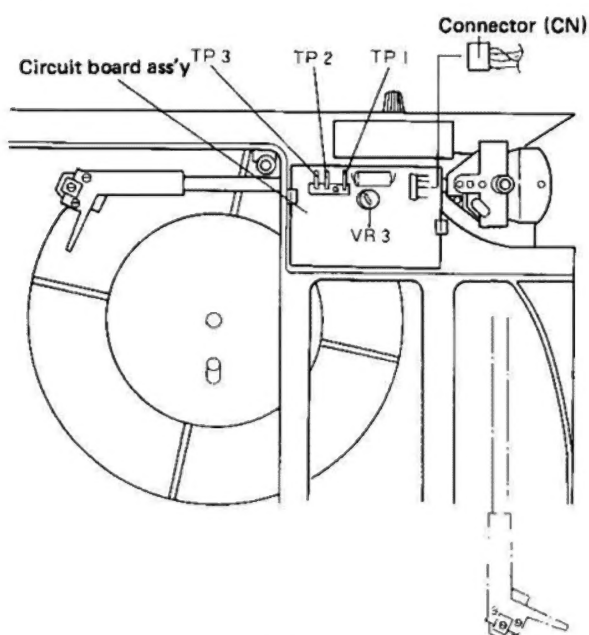

Fig. 13-4 End Detector Adjustment 1
3. Connect a DC voltmeter to the TP1 (GND) and TP2 terminals (see Fig. 13-4).